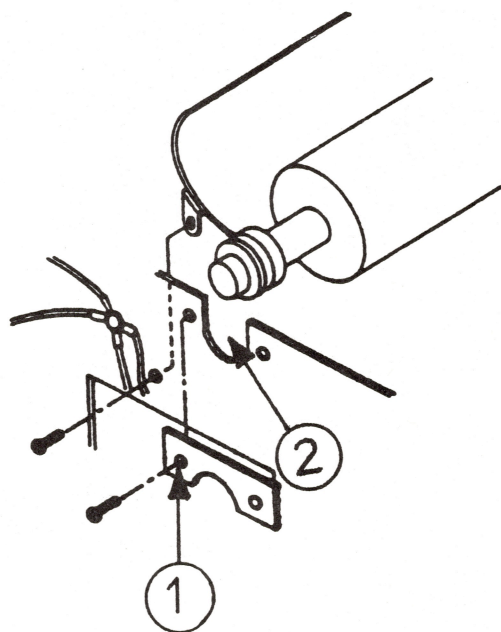

FIGURE 2
3. On the left side of the platen, remove the screw from the shaft holder (see Figure 2, #1).
1. Slide the platen down into the chassis cutouts (see Figure 1, #3 and Figure 2, #2).